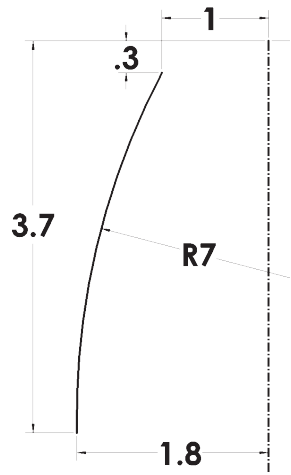

Fig. 5
Step 4. Click **Smart Dimension**  (S) on the Sketch toolbar.
Step 5. Add dimension. Dimension the arc radius 7 last and 3.7 to top endpoint of centerline, **Fig. 5**.